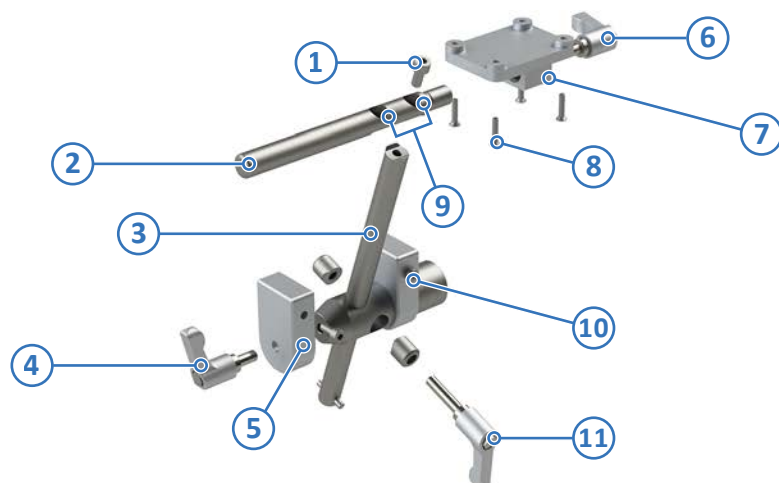

Fig. 3: Mounting kit
The mounting kit comes pre-assembled for the ES072 source. If the oven is used on an ES071 source, please use the alternative mounting position as shown in Fig. 3 ⑨.